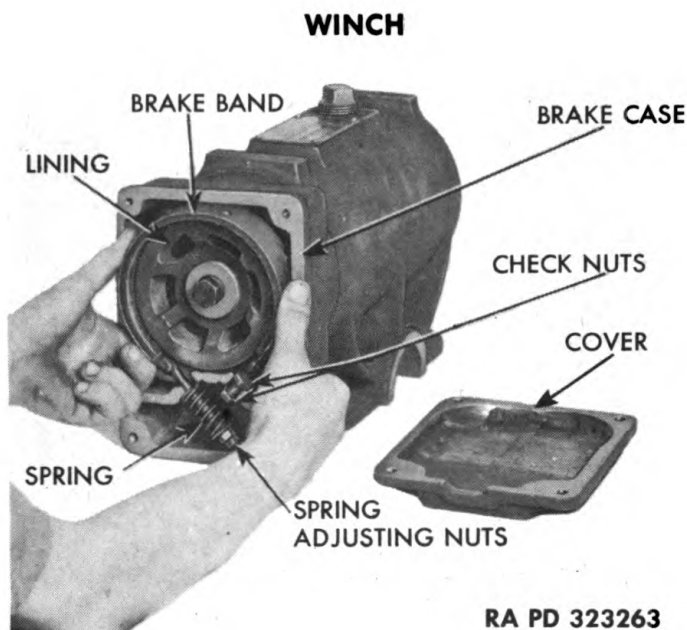

Figure 270 — Removing Automatic Brake Band Assembly
h. Remove Automatic Brake Assembly. Remove four cap screws and lock washers attaching cover to brake case and remove cover. Loosen two spring adjusting nuts and two nuts attaching brake band to case; pull brake band off disk and out of case (fig. 270). Remove four cap screws and lock washers attaching rear bearing cap, and remove cap and gasket (fig. 271). Remove cap screw, lock washer, and retainer washer from end of worm shaft, and drive on end of worm shaft with a brass rod until it is forced out of brake disk (fig. 272). Then remove brake disk.
d. **Install Automatic Brake Assembly.** Drive automatic brake disk on worm shaft. Install retaining washer, lock washer, and cap screw to end of worm shaft. With lining installed on brake band, install two check nuts on anchor end far enough apart to go on either side of slot in case. Install spring, alining washer, and two adjusting nuts flush with end of screw on brake band. Install brake band in case, placing both ends in slots provided in case (fig. 270). Tighten two anchor end check nuts on case, and adjust brake band (refer to TM 9-786). Place brake case cover on case, and install four cap screws and lock washers.